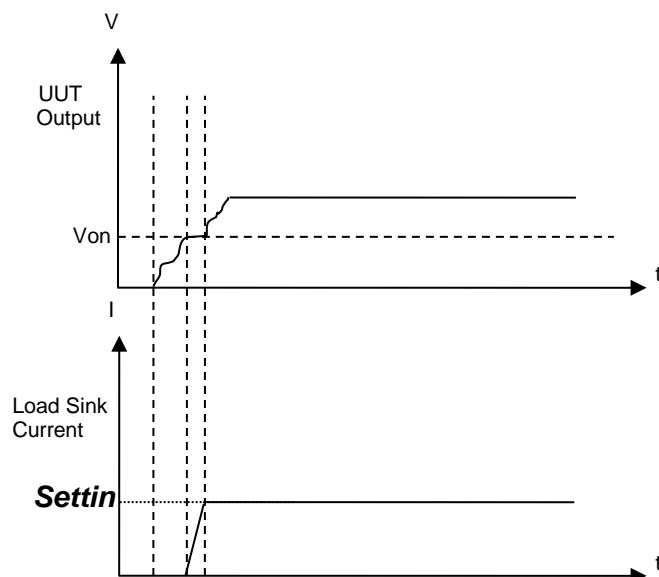

Figure 3-25 When Von Point sets to 0V with Protection
- (2) When the Von Point is set to 0V and protection is selected for LVP during “LOAD ON”, the Electronic Load starts current loading when the SW is off and the external voltage is over the protection voltage. Current overshoot will not occur under this circumstance as shown in Figure 3-25 .